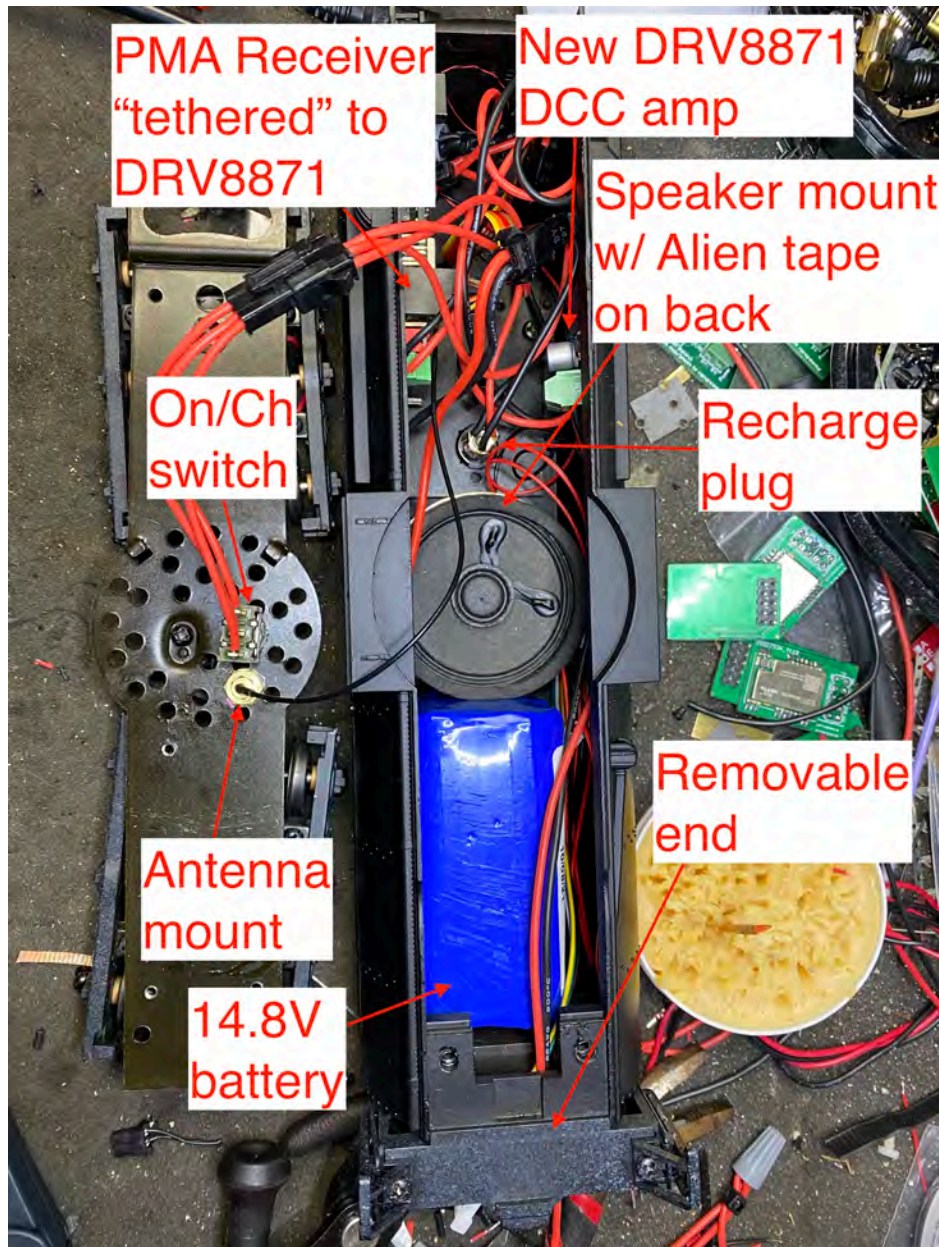

Figure 18: ProMiniAir receiver integration with battery power, a DRV8871 H-bridge "amp," and antenna
- The AdaFruit DRV8871 or DRV8871 clones are smaller (1.0”x0.8”x0.4”) 3.6A H-bridge motor drivers requiring two logic-level DCC inputs that are inverted with respect to each other. We activate this output scheme by setting CV253 to 0. On power-up, some decoders produce large “in-rush” currents because their large “keep-alive” capacitors are in near short-circuit condition before they charge. These in-rush currents will cause the DRV8871 to shut down unless the output current is limited. We insert a 1-ohm resistor in series with the DCC output to limit the current during short-circuit conditions. See Figure 18.